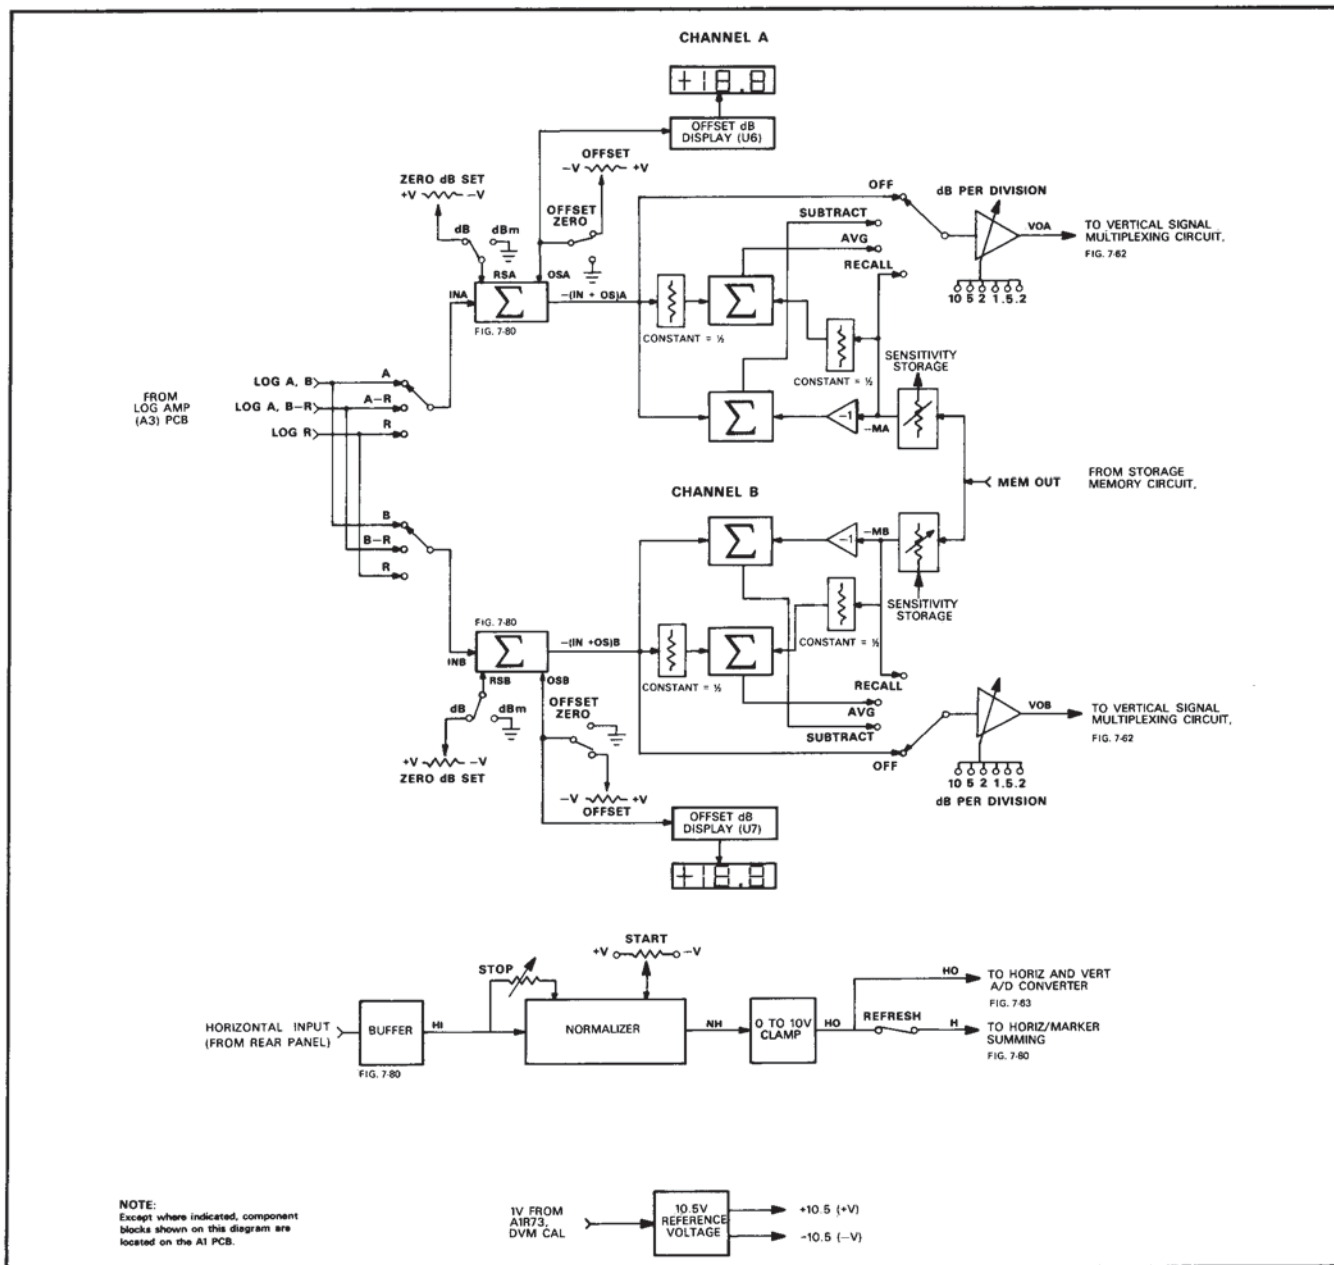

Figure 7-57. A1 PCB Block Diagram
The Front Panel (A1) PCB is the connecting plane for the front panel switches, controls, and indicators. In addition, it also contains the following circuits: (1) input summing, (2) offset dB display, (3) memory subtract, average, and recall, (4) dB per division gain and vertical signal output, (5) horizontal input-signal normalizing and 0-10V clamp, and (6) 10.5 volt reference voltage. A block diagram of these circuits is shown in Figure 7-57, a parts locator diagram is shown in Figure 7-58, and the schematic is shown in Figure 7-59. With the exception of the horizontal normalizing and the 10.5 volt circuits, the circuits mentioned above are identical for Channels A and B. Channel A circuits are described below; descriptions are referenced to the block diagram. To correlate between the blocks shown on the block diagram and the actual circuits shown on the schematic diagram, use the mnemonic symbols. The mnemonic symbols used to identify control and signal lines point to the circuit components on the schematic diagram.